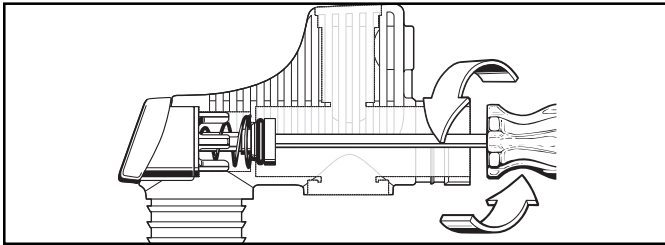

Figure 3
1.1.13 While holding the oral inflator button(26) completely depressed, apply a $\frac{3}{16}$ " hex key to the purge rod(15), through the upper barrel of the body, and slowly turn the purge rod counter-clockwise with steady, controlled force until it begins to turn freely (see Fig. 3). Maintain pressure on the button to prevent the ejection of parts, and continue turning the purge rod counter-clockwise to loosen and remove. Relax the oral inflator button, and set the body with button aside.